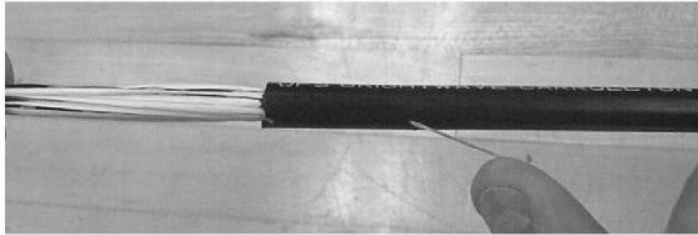

Figure 26 - Pull the ripcord to open the outer cable sheath
5.13 Locate and pull each ripcord to the ring cut (Figure 26). Sometimes a small starter slit is needed to start the ripcord. If desired, wrap the ripcord around a pair of pliers to grip the ripcord. Remove the outer cable sheath.